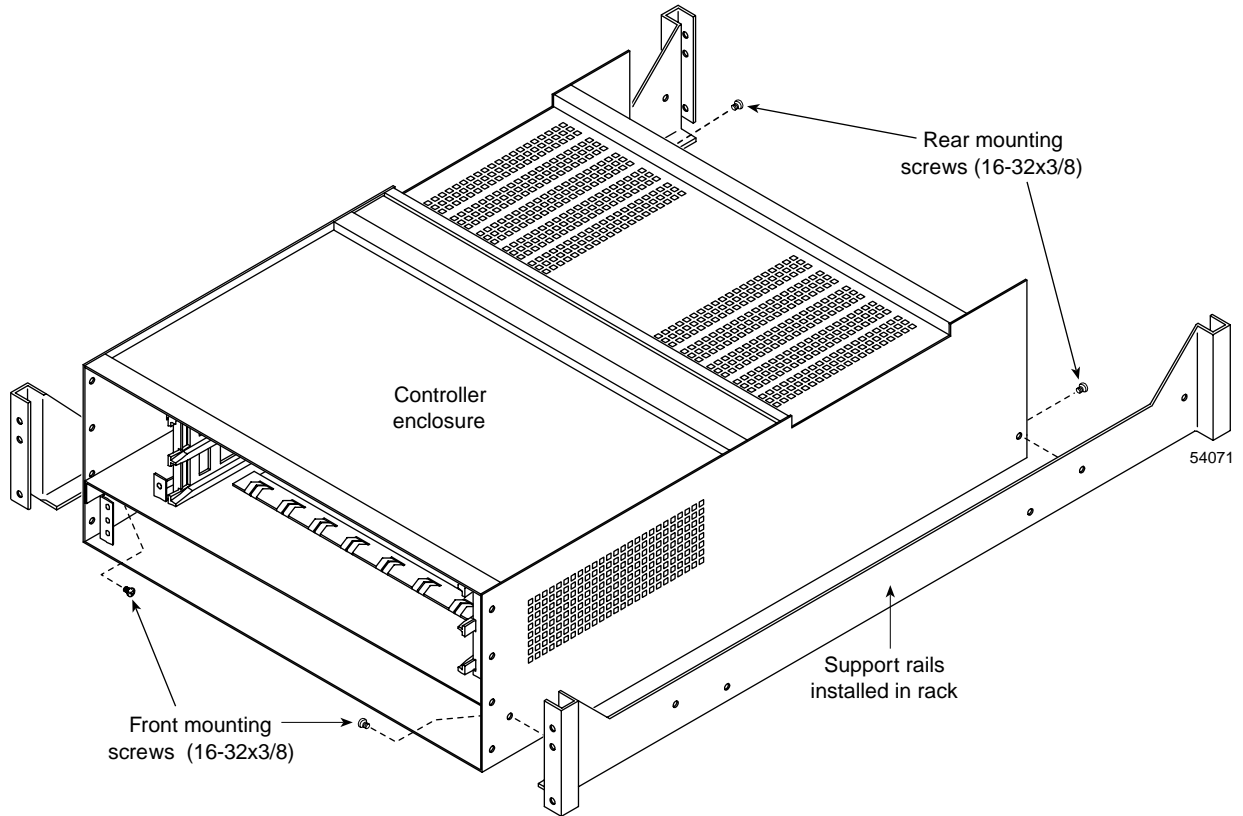

Figure 3-9 Removing the Controller Enclosure from the Rack
3. Remove mounting screws on the front and rear of the enclosure (see Figure 3-9). Pull the enclosure out of the rear of the rack. Set it on a level, dry surface.
2. From the rear of the rack, slide the controller enclosure into the rack along the support rails (see Figure 3-9).
3. Fasten the rear and front mounting screws (see Figure 3-9).